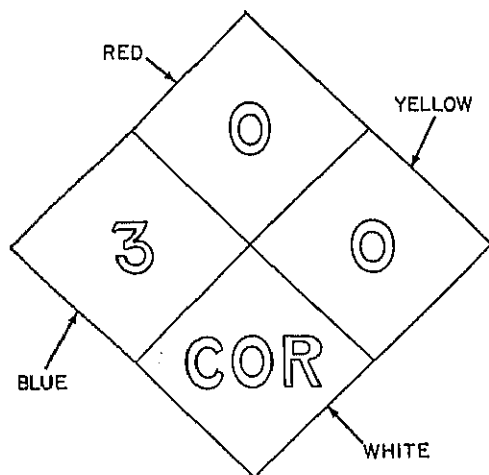

Figure 2B.--Hazard identification symbol.
Information for items 2-40 through 2-42. You are loading cargo, much of which are class A and B explosives. All of this ammunition is being stowed in #1 hold which is sprinkler-protected. You notice a boxed carboy (bottle) stenciled with the hazard identification symbol shown in figure 2B.